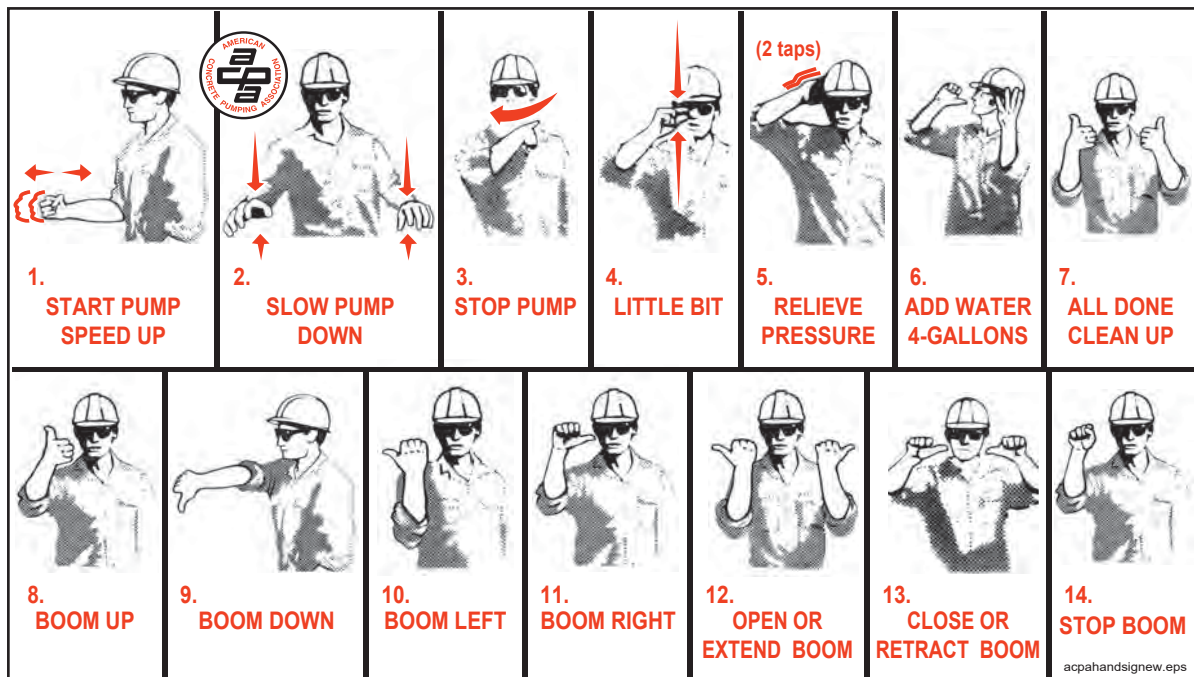

Figure 97
17.24 **⚠ WARNING** Before the pour begins, the hose man, the operator and the spotter should agree on hand signals (Figure 97)